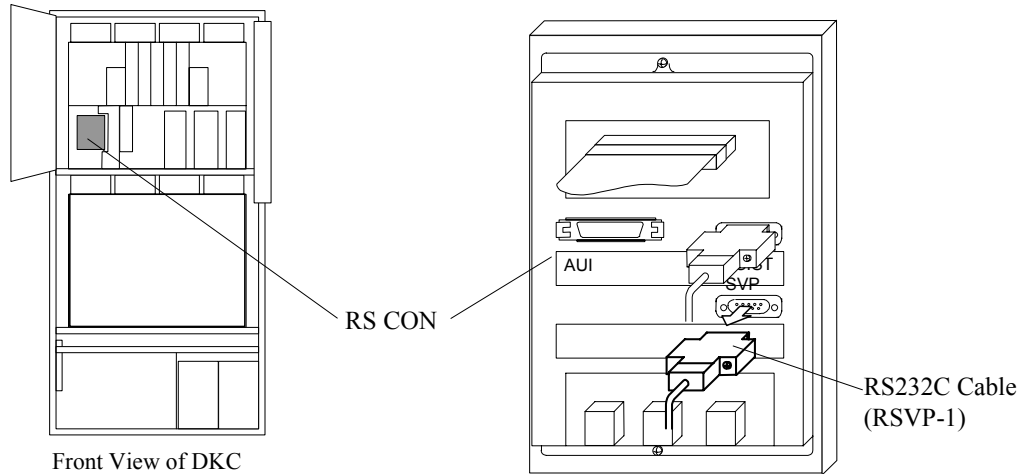

Fig. T7.1-5 Disconnect of RS232C Cable
- a. Disconnect the RS232C cable (RSVP-1) from the RS CON PCB. (See Fig. T7.1-5 [REP03-490].)